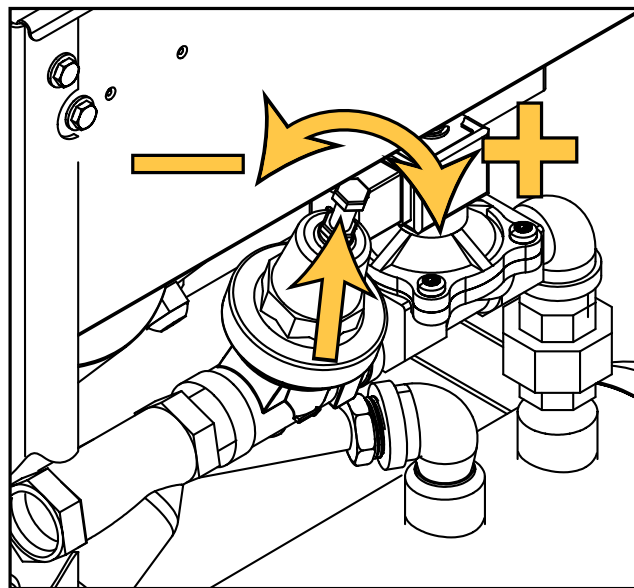

Fig. 8 - PRV pressure adjustment screw
3. Turn the PRV adjustment screw clockwise to increase the flowing pressure. Turn the screw counterclockwise to reduce the flowing pressure, (Fig. 8).